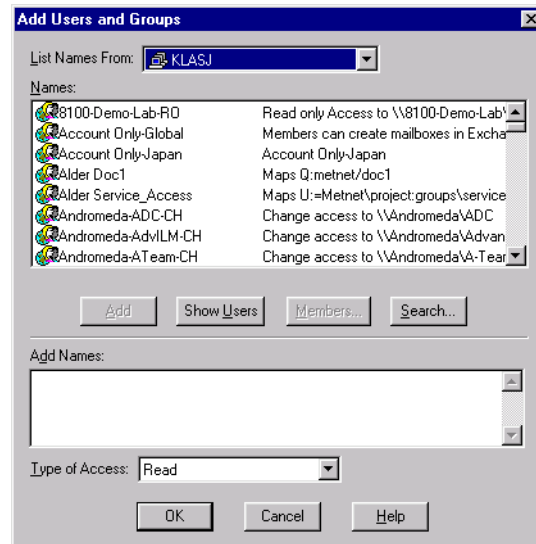

Figure B-8: Add Users and Groups Dialog Box
- Click the Add button to open the Add Users and Groups dialog box (Figure B-8).